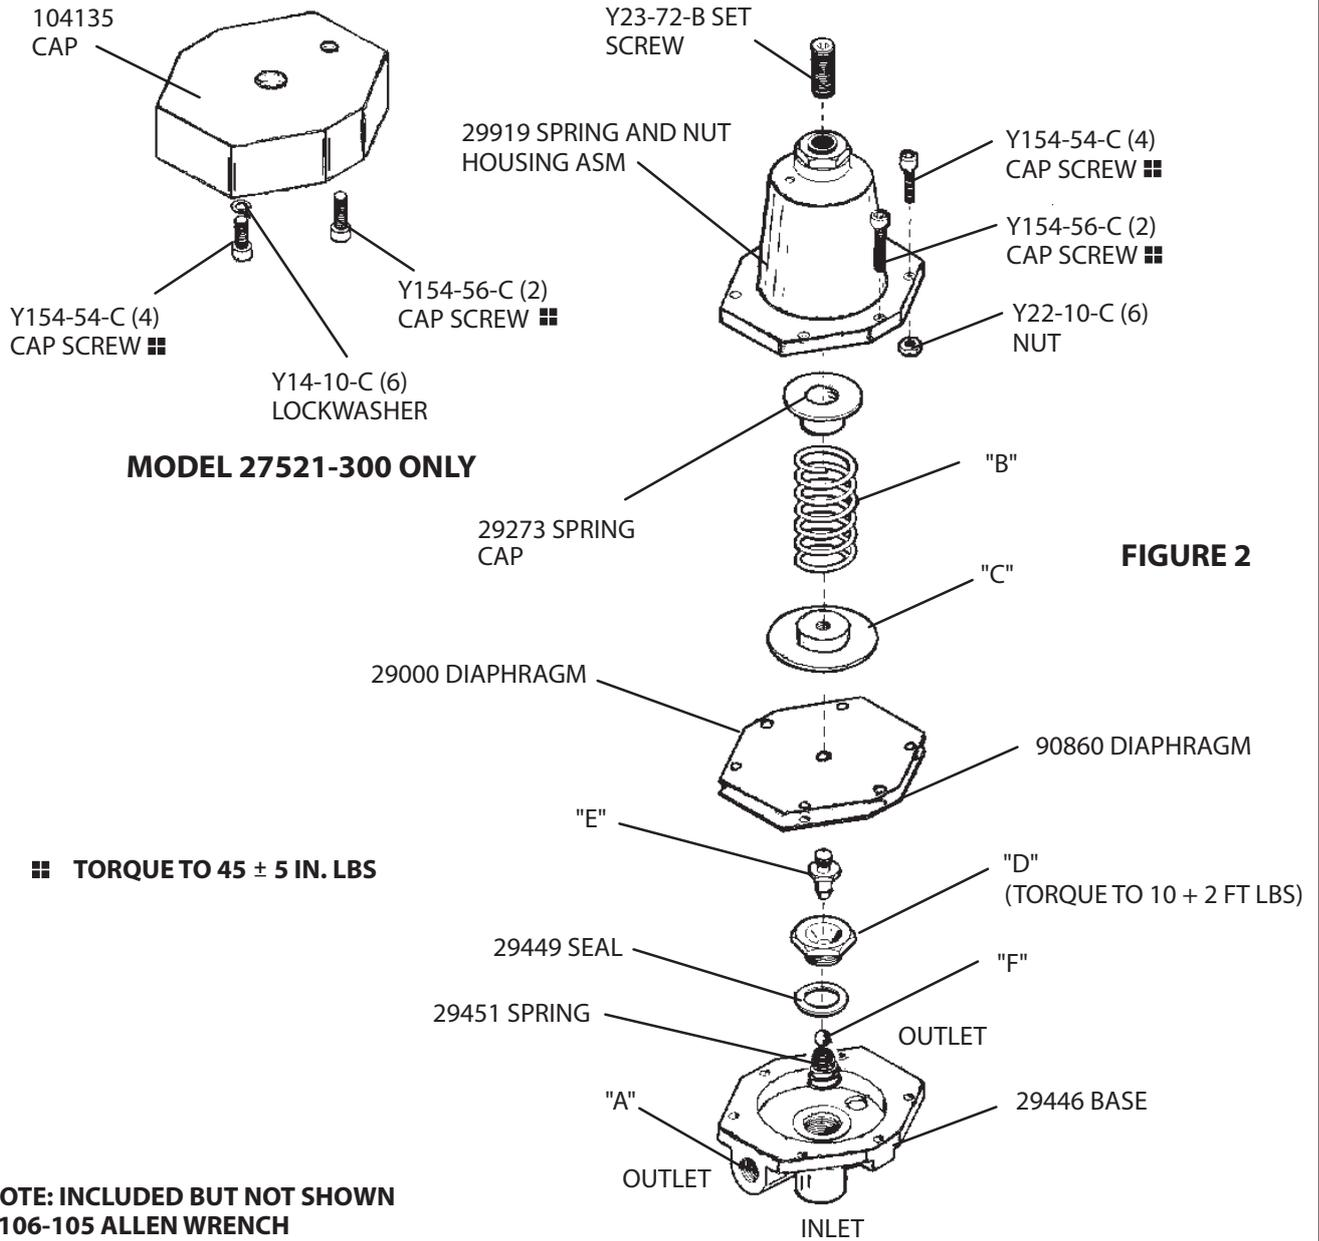

FIGURE 2
- If outlet pressure rises or creeps, check (D) seat assembly and (F) ball for foreign material. If (D) seat assembly and (F) ball appear to be worn or eroded, they should be replaced. (See Figure 2).